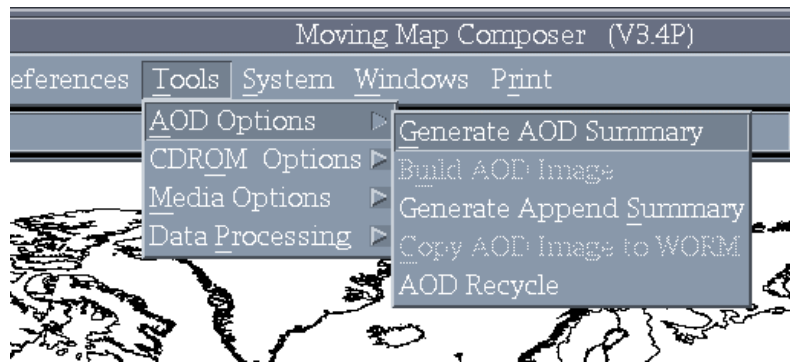

Fig. 17 – AOD options menu
- a. From the main menu, click on *Tools*, then *AOD Options*, and then *Build AOD Image* (Fig. 17). A dialog box will appear asking you to verify that you want to build the AOD image; click *Yes*.
- a. On the main menu, click on *Tools*, then *AOD Options*, and then *Copy AOD Image to WORM* (Fig. 17).